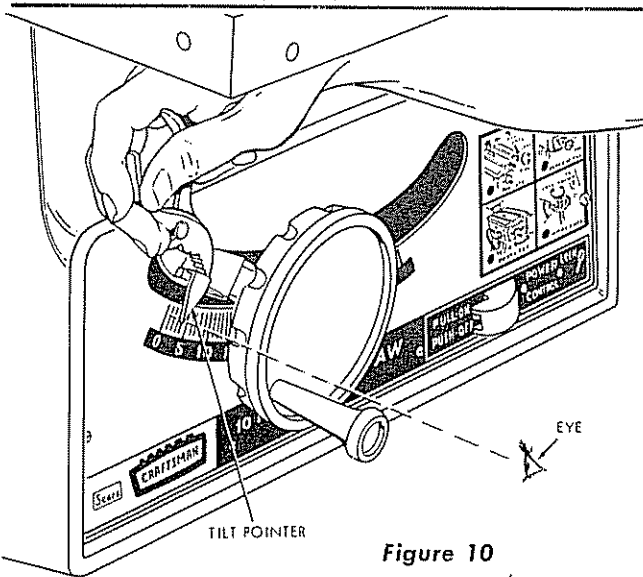

Figure 10
(8) With the tilt hand-wheel rotated clockwise until it stops (saw blade 90° with table surface), check the tilt pointer on tilt gauge which should be at exactly "0" (zero) degrees. (See figure 10.) A close look will show a reflection of the pointer tip on the mirror surface of the tilt scale on front panel. In order to make sure that you are sighting squarely with the scale, move your eye until the tip of the pointer and its reflected image coincide.
(9) If the pointer is not aligned with the "0" mark, bend the pointer carefully with pliers (figure 10) until it remains at "0" when the pliers are removed.